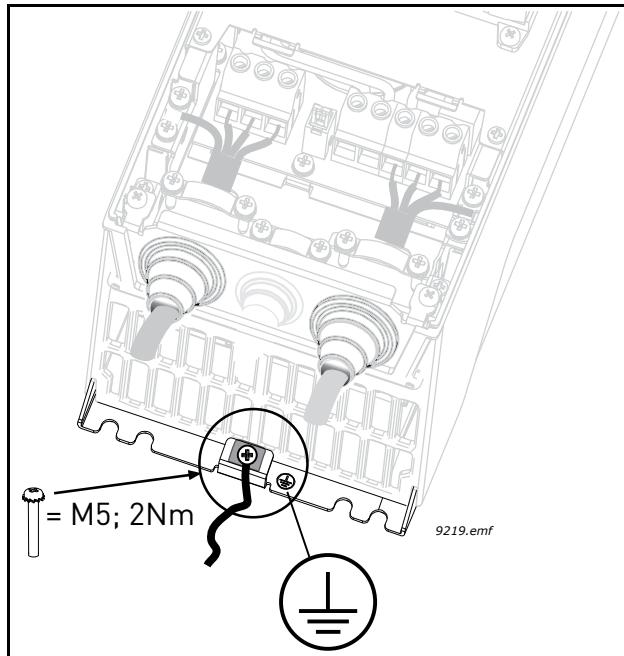

Figure 27. Additional protective earthing connector
**NOTE:** Two protective conductors are required according to standard EN61800-5-1. See Figure 27 and chapter Earthing and earth fault protection. Use an M5 size screw and tighten it to 2.0 Nm (17.7 lb-in.).